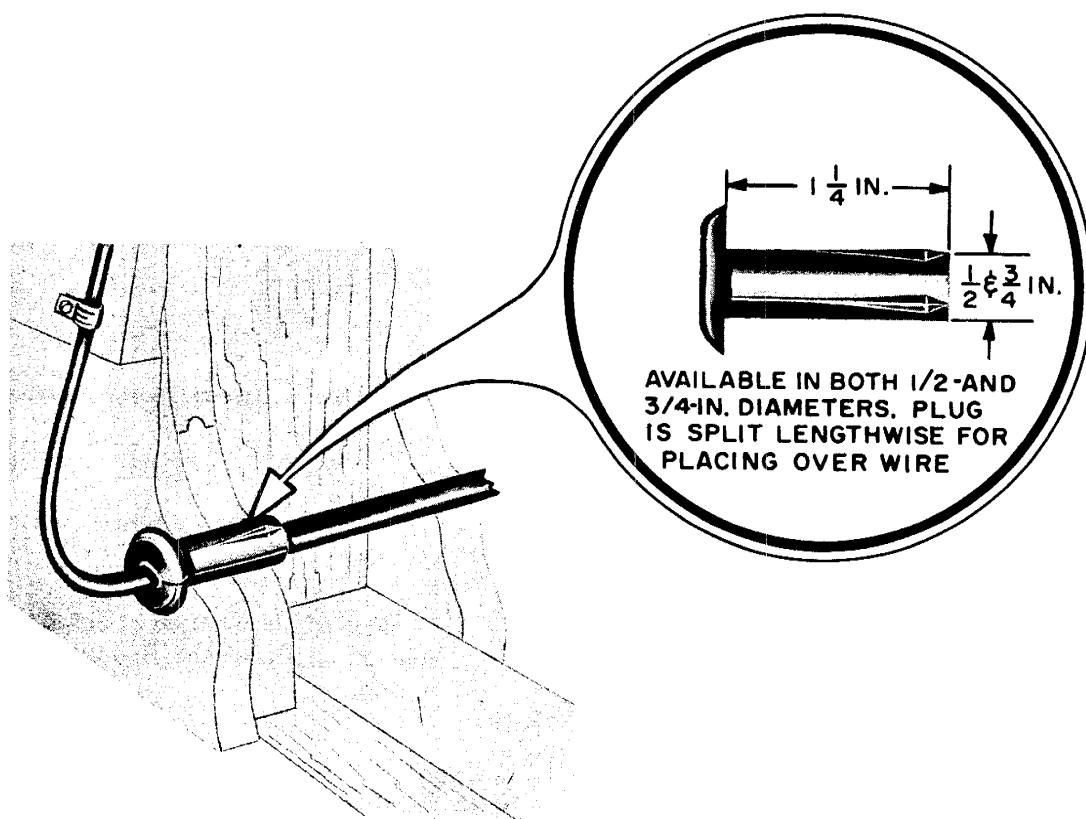

Fig. 19 — B Entrance Plug
13.02 The B entrance plug (Fig. 19) is intended primarily for use with NP, C, or E drop wires and is furnished in $\frac{1}{2}$ - and $\frac{3}{4}$ -inch diameter sizes. This plug may be used: